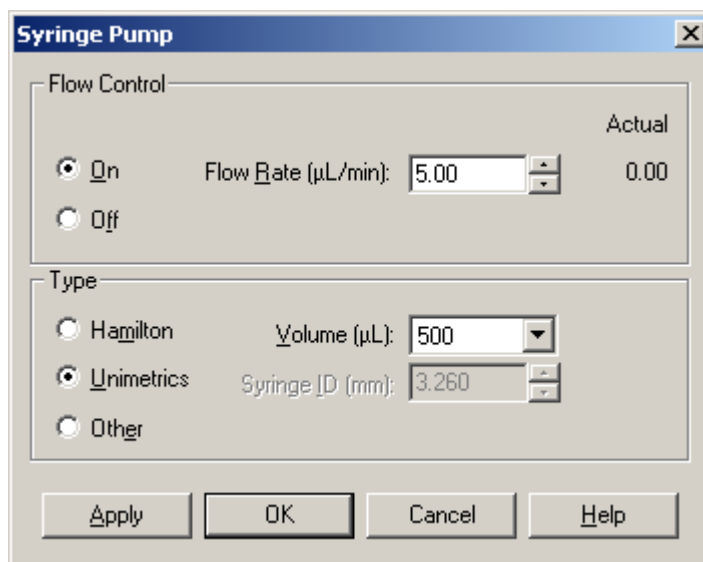

Figure 5-2. Syringe Pump dialog box
5. Click on the Syringe Pump button to display the Syringe Pump dialog box. See Figure 5-2.